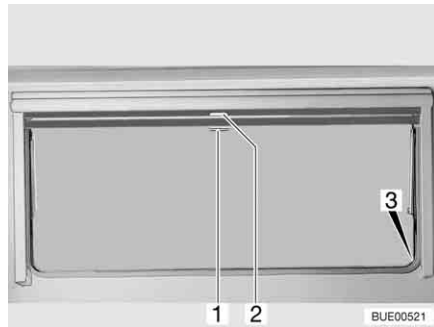

Fig. 53 Hinged window
- Pull blind at the handle (Fig. 53,2) downwards. If the blind is to be completely closed, it is suspended into the locking devices (Fig. 53,3) situated on both sides of the window frame.
- If the blind is completely closed: Press handle (Fig. 53,2) downwards and, at the same time, tilt it slightly inward. The blind can be taken out of the locking devices situated on both sides of the window frame.
- If the blind is in an intermediate position: Pull the handle (Fig. 53,2) slightly downwards until the locking device releases.
- Pull insect screen at the handle (Fig. 53,1) down and hang it into the locking devices (Fig. 53,3) situated on both sides of the window frame.
- Press handle (Fig. 53,1) downwards and, at the same time, tilt it slightly inward. The insect screen can be taken out of the locking devices situated on both sides of the window frame.